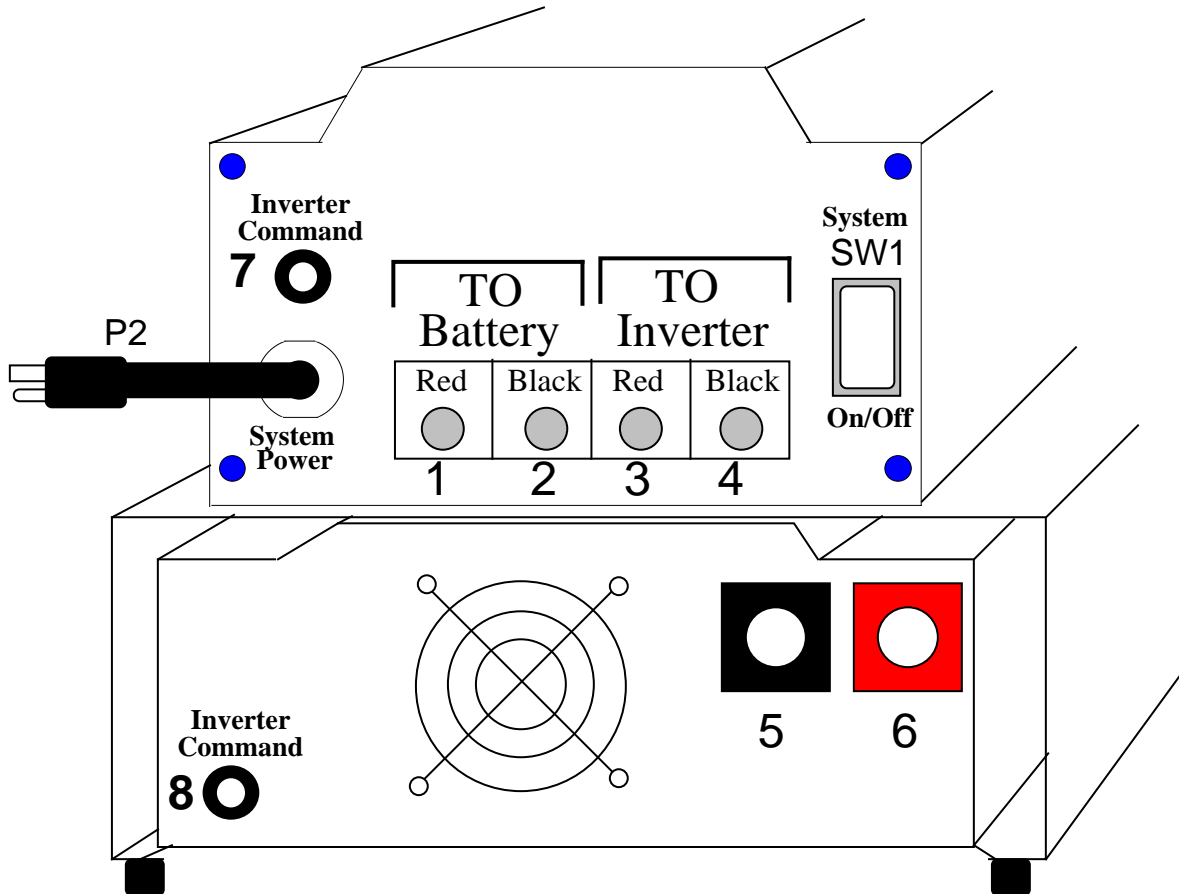

Figure 2
Figure 2 shows the rear view of the unit.
G) Turn master rocker switch SW1 shown in Figure 2 to the “ON” position by pressing on the lower part of the rocker and exposing its top red portion. This step energizes the charger, transfer switch, and enables the inverter command.
H) Locate the 7 inch long black connector wire (inverter command wire) which is terminated at both ends with a banana plug. Insert one end into jack (7) and the other into jack (8) both shown in Figure 2. This last step enables the inverter. **Should you wish to disable your SF 709 for storage or battery servicing, it is important that you not only turn off the master switch SW1 in Figure 2, but also disconnect one end of the inverter command cable. Otherwise your inverter will continue to function until it discharges the battery completely.**